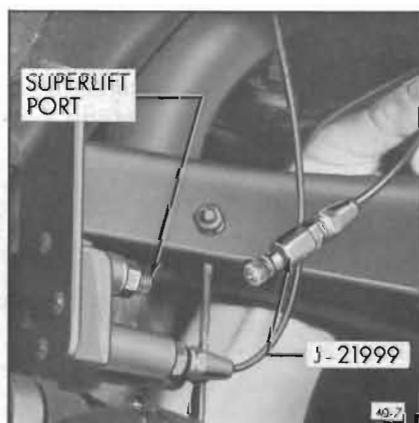

Figure 40-7—Remove Superlift Air Supply Line
2. Remove Superlift air supply line at height control valve. See Figure 40-7.